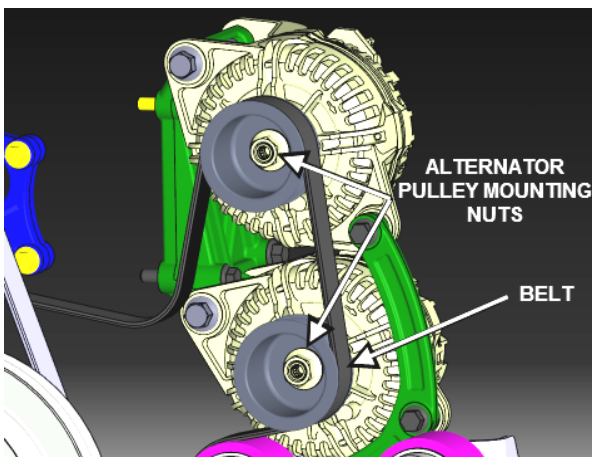

FIGURE 4
2. Remove the alternator belt (FIGURE 4).
3. Unscrew the alternator pulley mounting nut (FIGURE 4). **Keep nut for reuse** if nut provided with the alternator is not a flange nut.
4. Remove the alternator pulley (2 pulleys) (FIGURE 4).